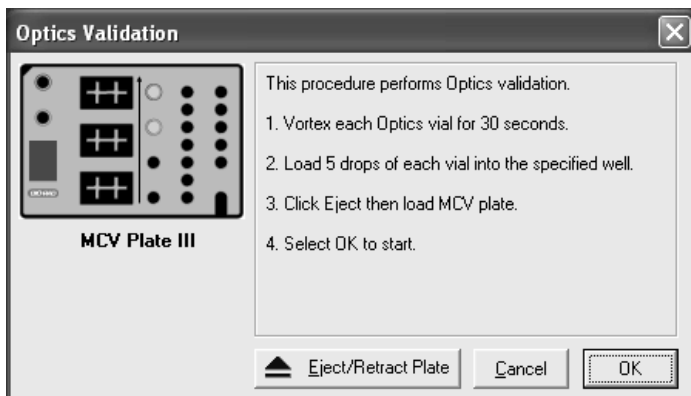

Fig. 4. Optics validation dialog.
8. Enter user name and control number. Select Optics. Select OK. The following dialog appears: (Figure 4).